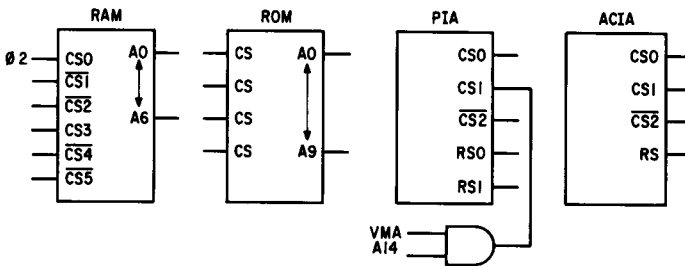

Fig. 10.8 Sample system
Recall that the four chip selects (CS) in the ROMs are mask-programmable, that is, defined by the customer and manufactured into the device. In our sample system (Fig. 10.8), we will assume the presence of three positive chip selects and one negative chip select in the ROMs. A positive chip select (CS) requires a +2-V signal to activate the input. A negative chip select (\overline{CS}) requires a 0-V level to activate. Recall that a ROM has ten address lines to address 1,024 different locations in the ROM. Since the chip selects determine which ROM is addressed, our goal is to select a ROM while making sure that the other ROMs in the system are not activated, and then, with MPU address lines A0 through A9, which are connected to ROM address lines A0 through A9, to select an address in that ROM.